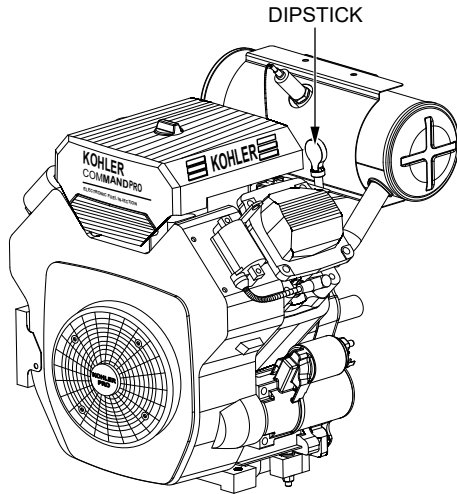

Figure 9. Engine Oil Dipstick
1. Pull the engine oil dipstick (Figure 9) from its holder.